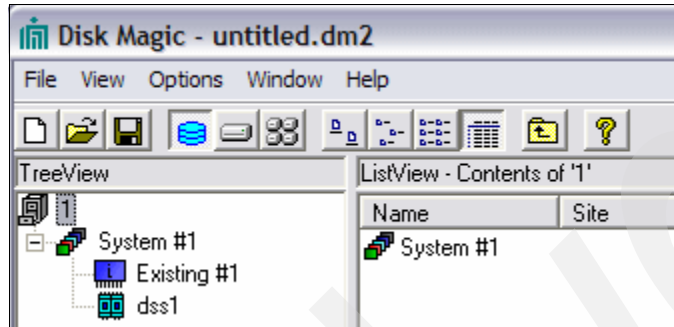

Figure 4-104 Disk Magic model
13. Disk Magic starts with the workload modeled with WLE (see Figure 4-104). Observe that the workload Existing #1 is already shown under TreeView. Double-click **dss1**.